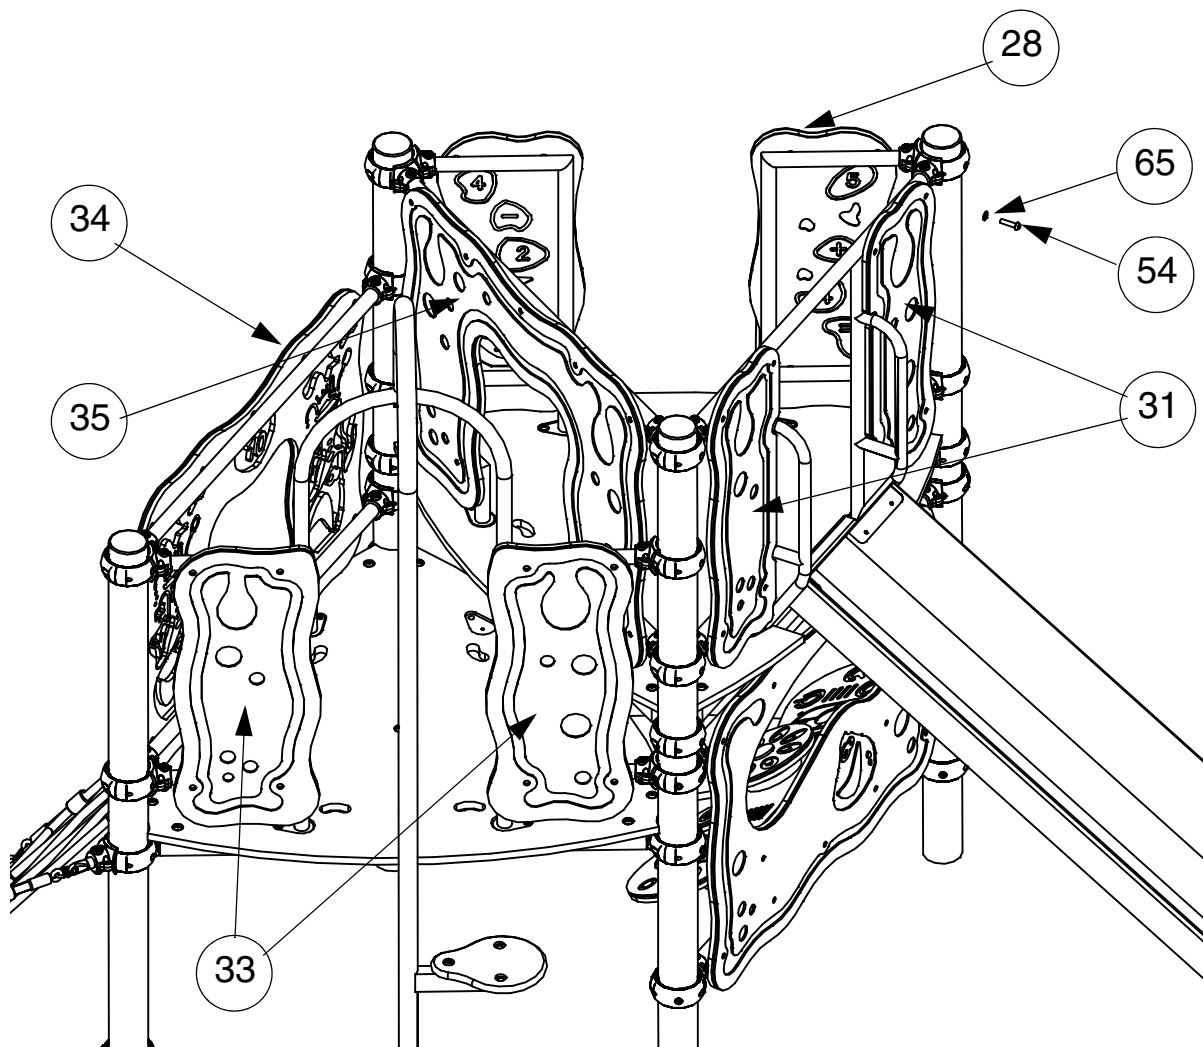

FIG.59
- 65) Assemble the Maze Entry Panel (item 35) in position as shown on the Panel Fixing Rails using 9 off M10 x 40 Resistorx bolts (item 54) and M10 Washers (item 65). See FIG.59.
- 66) Assemble the Spot Difference Panel (item 34) in position as shown on the Panel Fixing Rails using 9 off M10 x 40 Resistorx bolts (item 54) and M10 Washers (item 65). See FIG.59.
- 67) Assemble the pair of Slide Entry Panels (item 31) in position as shown on the Slide Entry Frame using 10 off M10 x 40 Resistorx bolts (item 54) and M10 Washers (item 65). See FIG.59.
- 68) Assemble the pair of Petal Climber Entry Panels (item 33) in position as shown on the Petal Climber Entry Frame using 8 off M10 x 40 Resistorx bolts (item 54) and M10 Washers (item 65). See FIG.59.